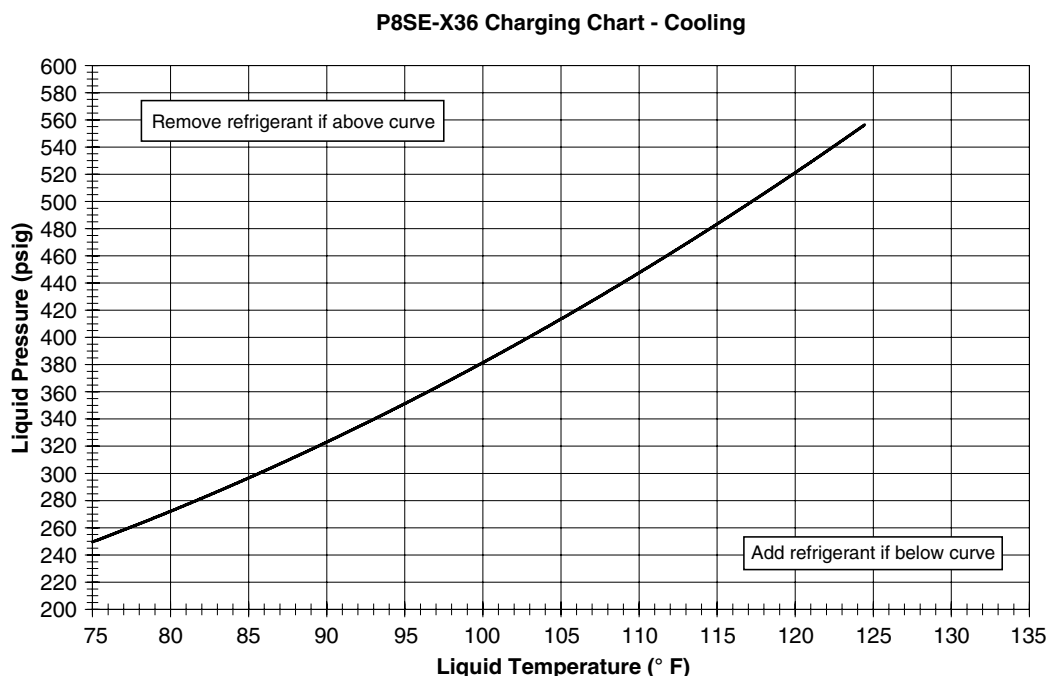
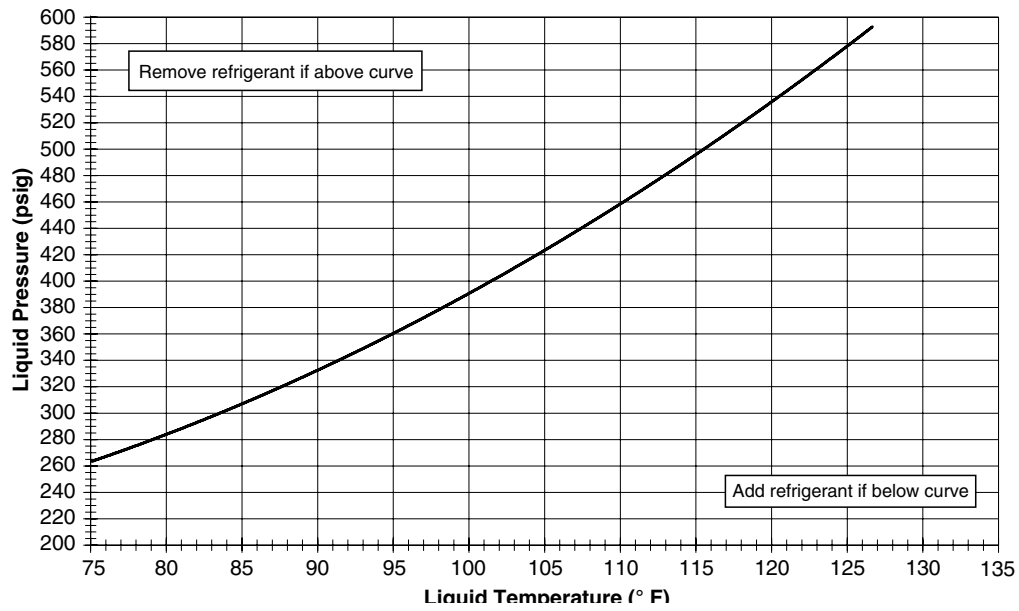
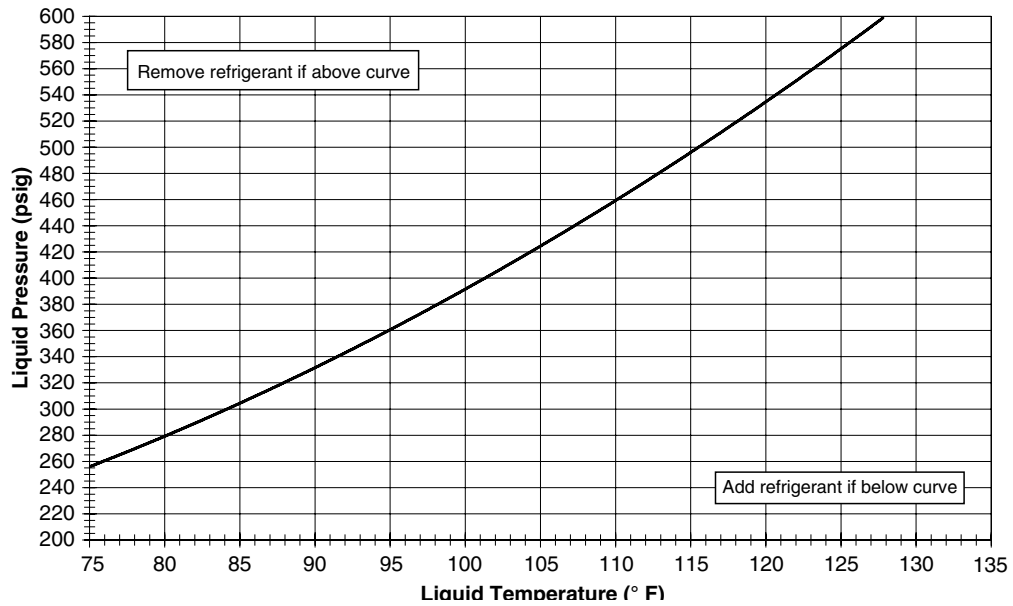

Figure 6. Charging Chart for 3 Ton Units
Figure 7. Charging Chart for 4 Ton Units
Figure 8. Charging Chart for 5 Ton Units
3. Determine the required liquid refrigerant pressure from Figure 6, Figure 7, (page 13), or Figure 8, (page 13).
- The refrigerant charging charts, Figure 6, Figure 7, or Figure 8 are applicable only to matched assemblies and listed airflows for the indoor coil. NOTE: Before using these charts, make sure the unit is in a stable operating mode. As shown in the charts, the ideal system sub-cooling can vary over the range of operation. Reference the charts to determine the ideal amount of sub-cooling for a given liquid pressure. Units charged to other values will not perform at the rated unit efficiency (EER).